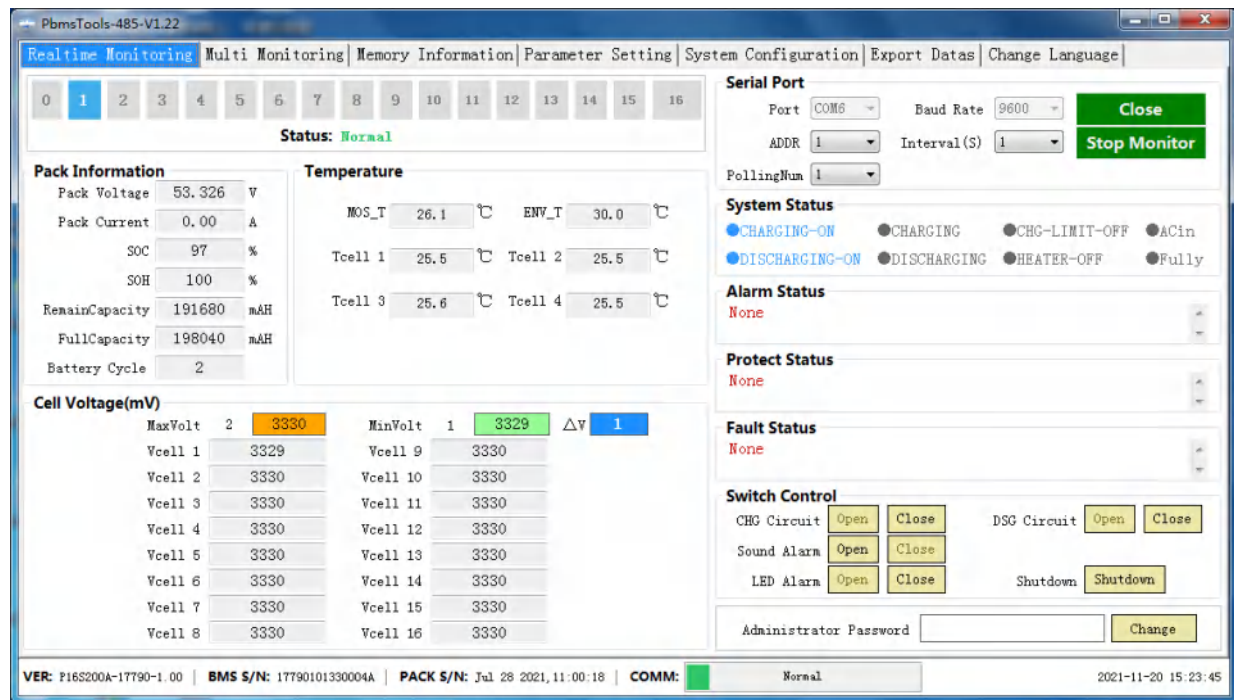

Figure 1-2 (Software main interface)
- 3.The software does not need to be installed independently. As long as the environment meets the requirements, double-click the Bmstools v1.22. icon to run it. After running, the main interface of the software is displayed (see Figure 1-2)
4. After opening the main interface (see Figure 1-2), the software will automatically search all existing serial ports. If an effective serial port is found, it will automatically connect the serial port and communicate, and read battery information, temperature information, unit voltage, system status, alarm status, protection status, fault status and other battery parameters in real time.